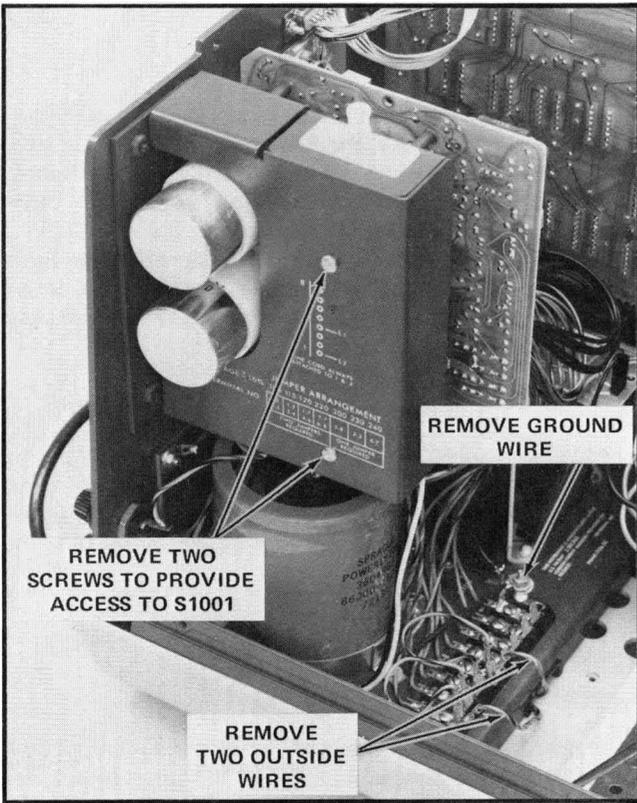

Fig. 3-2. POWER switch wiring.
4. Remove power switch wiring (see Fig. 3-2):